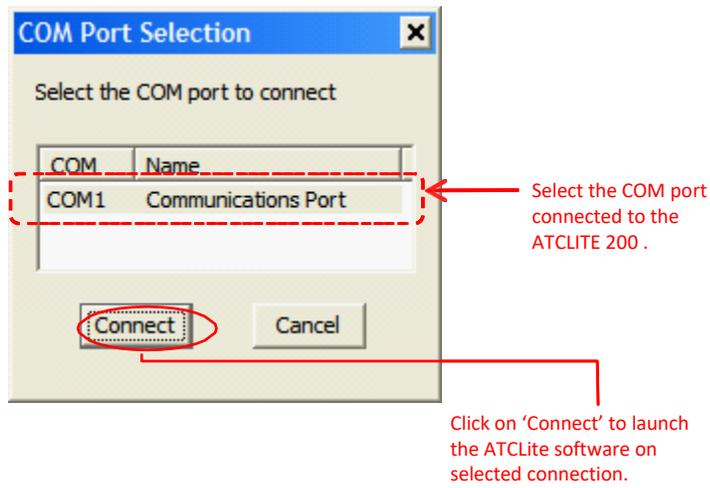

Figure 2-12. COM Port Connection Selection.
5. A RS232 cable can also be used to connect the controller's serial port and the computer running ATC Lite program instead of USB. Launching ATC Lite program will display message window "Use Serial Port?" with "Yes" and "No" buttons. Clicking on "Yes" button shows COM port connection selection for the ATC Lite program as shown in the figure 2-12.